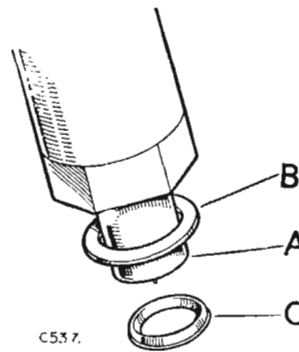

Fig. 17.
- (d) Fit the new injector-block, taking great care not to damage nozzle and also ensure that both new copper and steel washers are fitted. The steel washer must be fitted with the 'U' of the corrugation downwards. See Fig. 17.